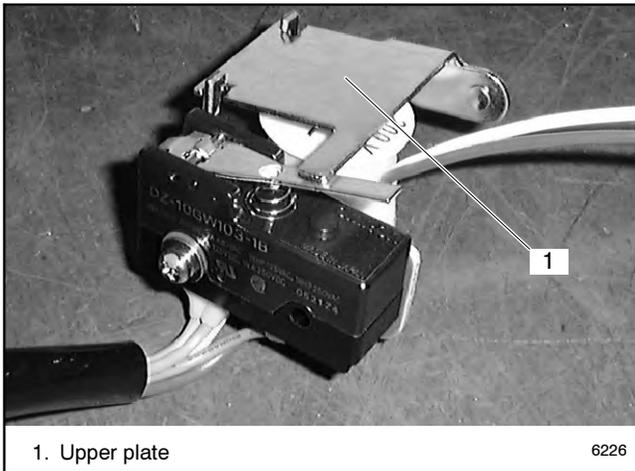

Figure 7-19 Select Coil Assembly
- Remove the upper plate from the select coil assembly. See Figure 7-19.